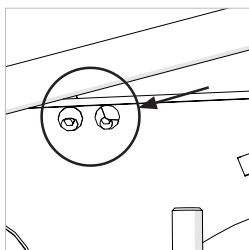

Fig. 27
To adjust the Riving Knife loosen the two (2) fixing screws (**Fig. 27**) slightly using an allen key. When correct alignment is achieved tighten the fixing screws.